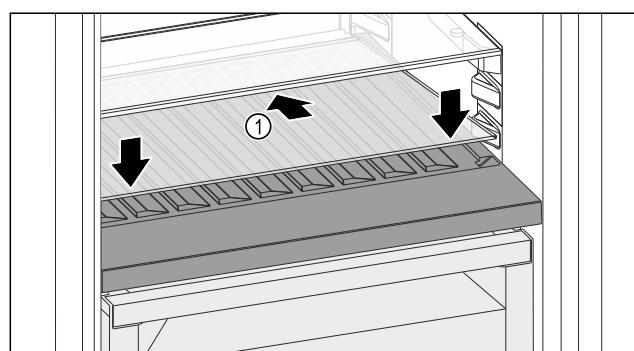

Fig. 126
- ▶ Place the glass shelf Fig. 126 (1) at an angle, sloping it downwards and backwards.
- ▶ Lower the glass shelf Fig. 126 (1) at the front.